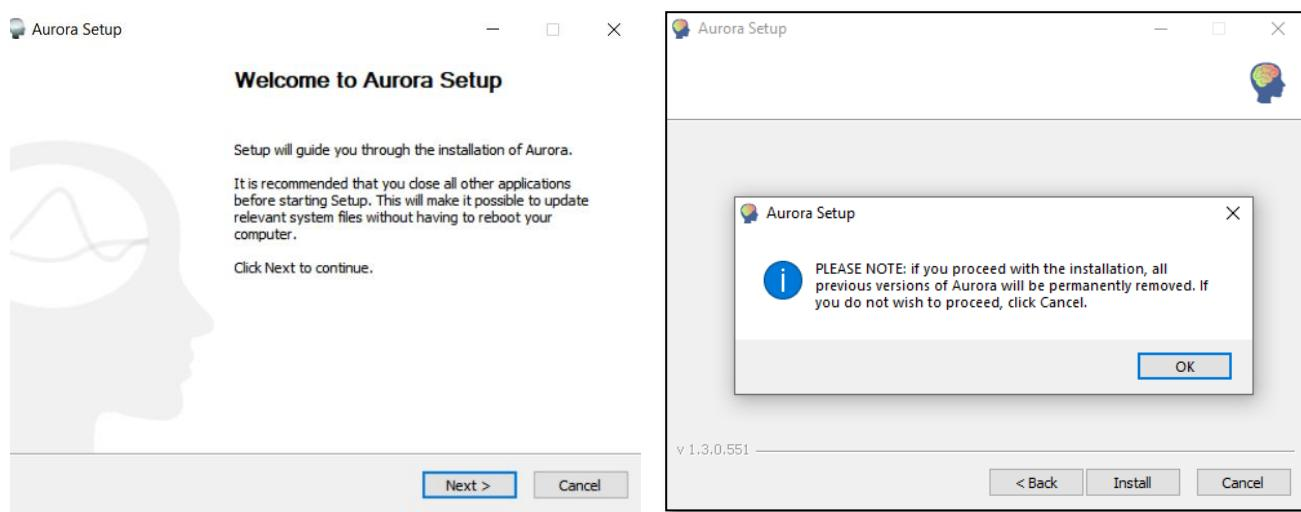

Figure 3.1: Aurora installation dialog boxes
- E. Read each dialog box as they appear, as in Figure 3.1, and click *Next/OK/Install* as requested. It is recommended to choose the default installation folder.